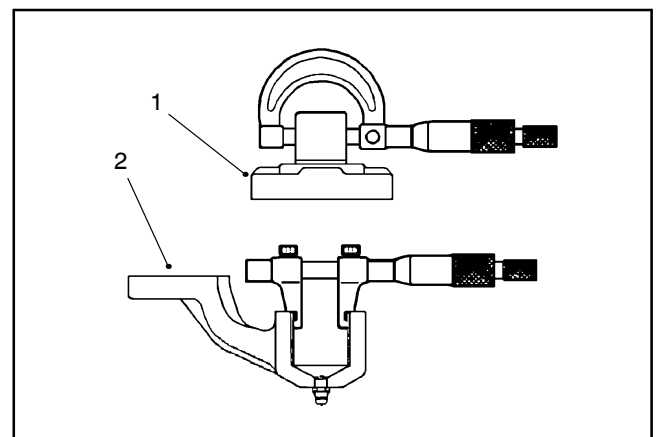

Figure 22
1. Measure the knuckle pin O.D. and the axle case support bushing I.D. to determine the bushing to pin clearance (Fig. 22). Replace components as necessary.